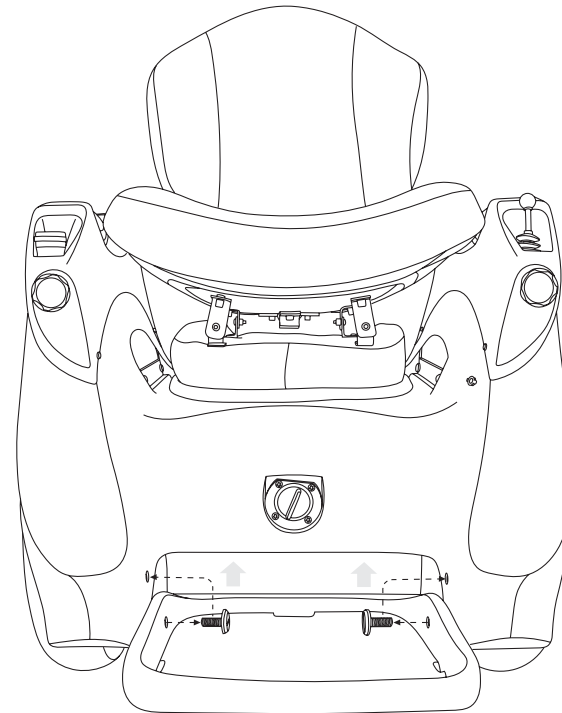

Figure 45: Adjust the Footplate height.
1. Adjust the Footplate height by using a screwdriver to undo the Footplate pivot bolts (Figure 45) and release the Footplate